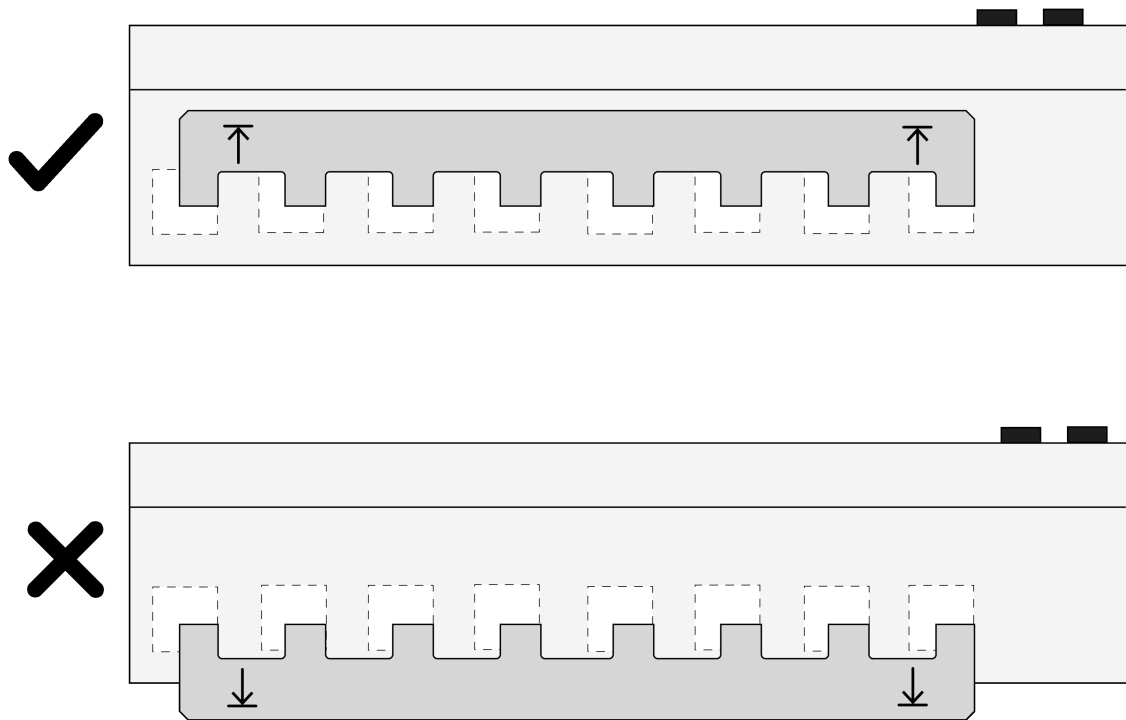

Figure 5: Installing the phase busbar
- Align the phase busbar using the printed arrows and plug it into the device connection terminals (see figure 5).